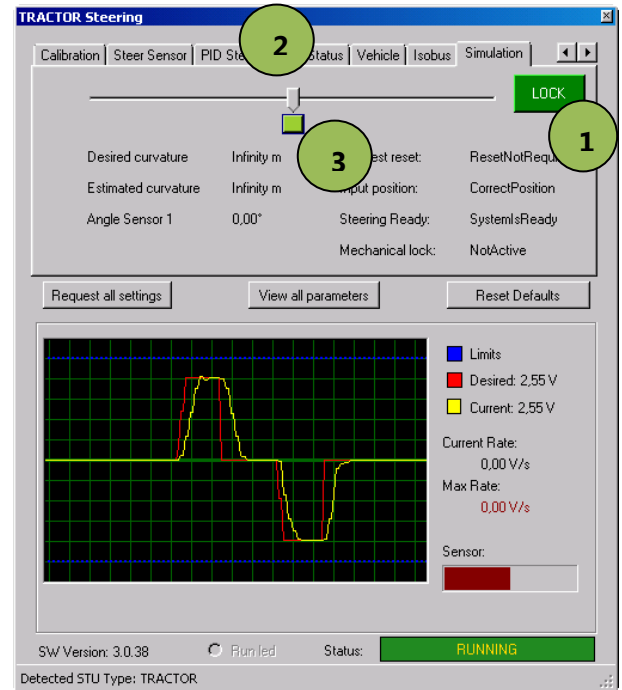

Figure 32 Simulation tab.
2. Slide the slide bar in the Simulation tab (Figure 32) from the center to  $\frac{3}{4}$  right or left. Judge the performance of the steering system when the wheels move to the desired position. The wheels should reach the desired wheel position without a lot of exceedance, but as quickly as possible.
In the graph, shown in Figure 32, the red line indicates the desired position of the wheels which can be altered by sliding the slide bar (see "2" in Figure 32) left/right. The yellow line represents the actual position of the wheels measured by the wheel angle sensor.
Steering the wheels manually for tuning purposes can be done as followed. Press the "UNLOCK"-button [1] Figure 32) to activate the steering system. Slide the slide bar [2] to change the desired wheel position (wheels will start moving). Do this while driving slowly and repeat several times. With the green button [3] the wheels go back to the center position. Judge how the wheels steer to the desired wheel position. The wheels should reach the desired wheel position without a lot of exceedance, but as quickly and smooth as possible. When the desired wheel position is reached the yellow line should exactly be on top of the red line (red line is no longer visible at that point).